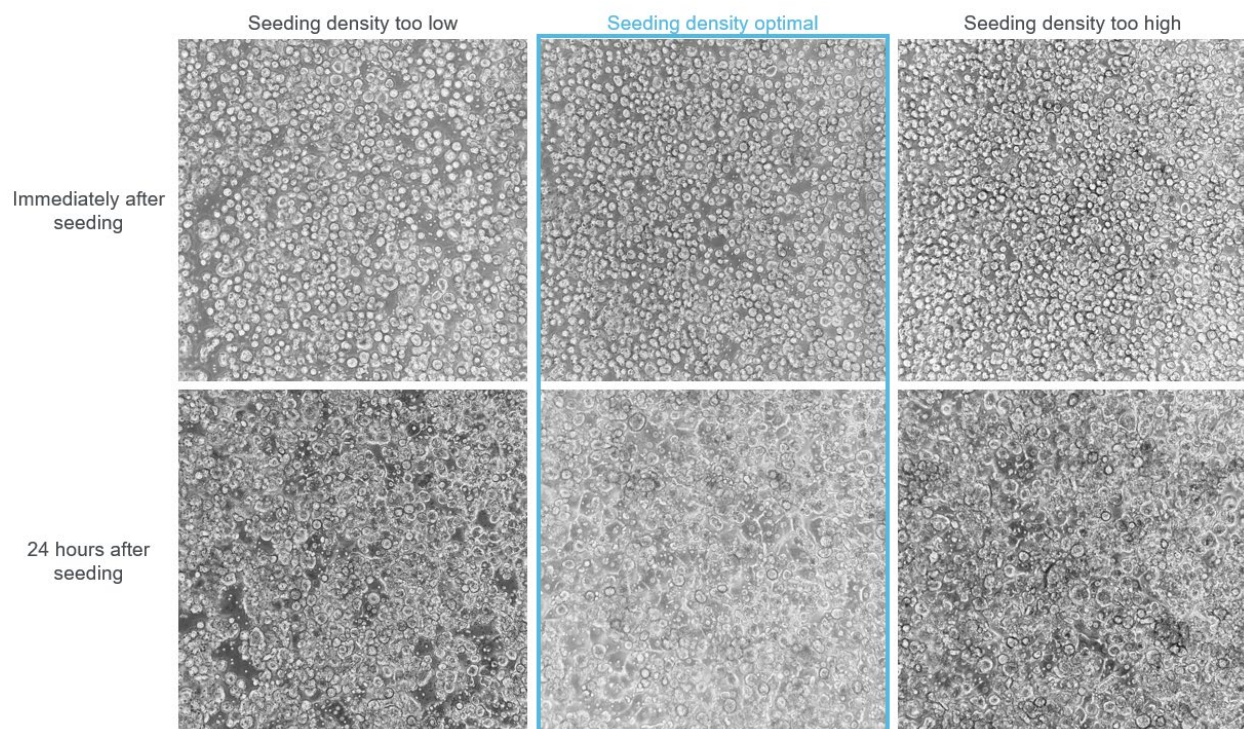

Figure 13. Example seeding density reference chart (Hepatocytes, Liver Quad-Culture)
6. Cover the Chip-Array with the pipette guide cover and visually inspect the seeded Emulation under a lab microscope to check if the density and distribution look appropriate (see Figure 13 below). Cells should not be overcrowded and